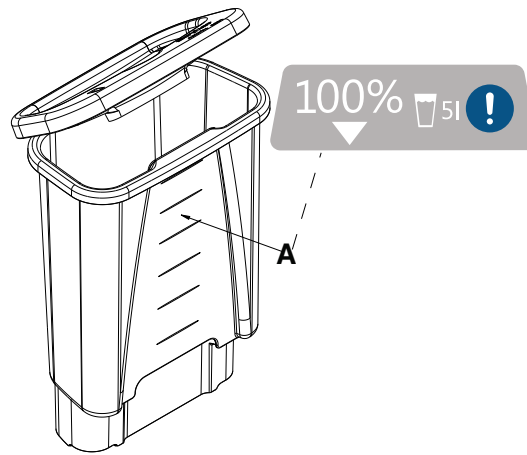

Figure 17 – Reservoir fill lines
2. Fill the reservoir with five liters of sterile distilled water. Do not fill past the top fill line to avoid water overflow (Figure 17).